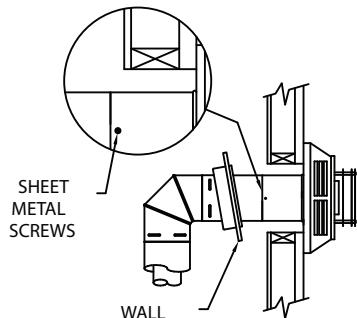

Figure 8
Step 5. Before connecting your horizontal Pipe Sections to the Horizontal Termination Cap, slide the Wall Thimble Cover over the Pipe Section nearest the interior side of wall (*Fig. 8*).
Step 6. Slide the appliance and vent assembly towards the wall, carefully inserting the Pipe Section into the cap assembly. It is important that the Pipe Section extends into the back of the Termination Cap with a minimum overlap of 1-1/4 inches. Use the two sheet metal screws provided to secure the Pipe Section to the back of the Termination Cap. The Wall Thimble Cover will cover the screw heads (*Fig. 8*).